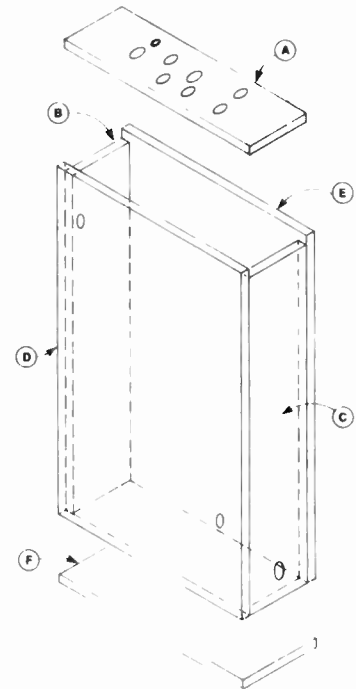

Figure 4. Assembly of the box.
To assemble the box, only panels from B to F are used, the lid (A) will be dealt with separately later on. The glue used was five minute quick dry Epoxy. The five pieces are glued together as shown in Figure 4. Check that the box is not tilted or twisted in any way. A right-angled ruler would help to get this right. Leave the box like that overnight to allow the epoxy to acquire its full strength. Next, smooth the box with sandpaper. Use a coarse grade until the joints between panels are smooth, then finish off